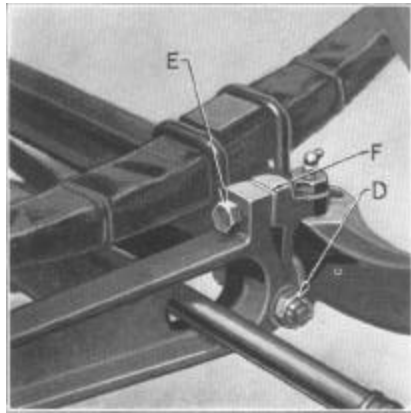

Figure 14
By loosening nut (D), Figure 14, removing cap screw (E) and replacing shim (F) with a thicker shim caster is decreased. Replacing shim (F) with a thinner shim increases caster.